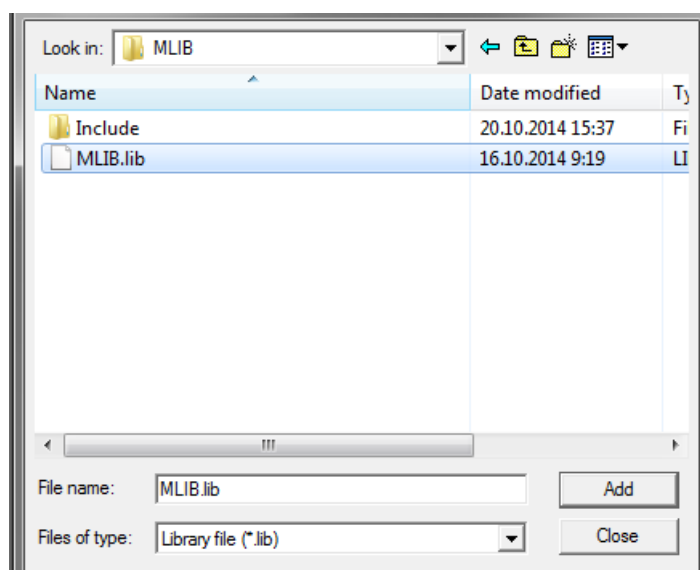

Figure 1-32. Adding .lib files dialog
5. Navigate to the parent folder C:\NXP\RTCESL\CM0_RTCESEL_4.6_KEIL\MLIB, and select the *mlib.lib* file. If the file does not appear, set the Files of type filter to Library file. Click Add. See Figure 1-32.